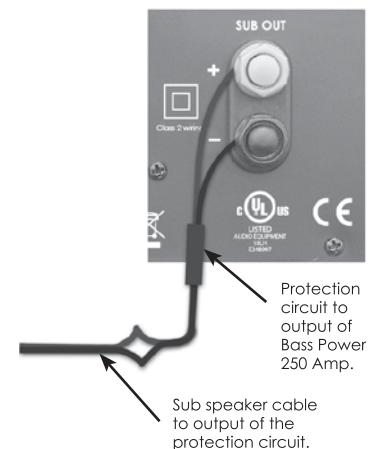

Figure 3
3. Observing the proper polarity (Red for positive and black for negative), securely connect the subwoofer to the input cable on the enclosure. Make sure the cable does not interfere with the diaphragm. The other side of the input cable should already be connected to the wire leads coming from your SpeakerCraft Bass Power 250 amplifier. **Note:** The amplifiers power must be unplugged when connecting any wires or cables to it. **IMPORTANT:** A protection circuit most commonly known as a Polyswitch is included in the packaging. To protect your Seamless Sub from excessive current from your amplifier, please install this protection circuit before operating your sub. In the event that the protection circuit is triggered, it will reset itself only when it cools. It requires no manual setting or replacement. **Figure 3.**